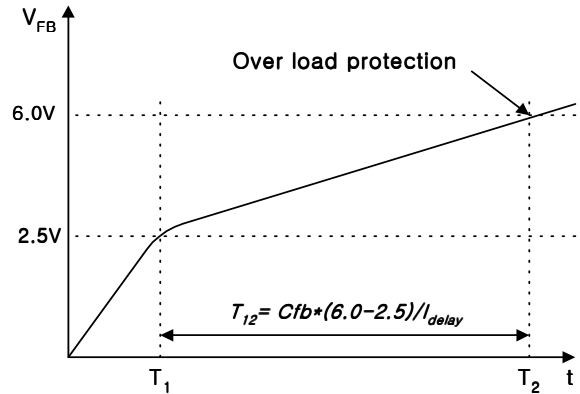

Figure 7. Over load protection
**3.1 Over Load Protection (OLP) :** Overload is defined as the load current exceeding a pre-set level due to an unexpected event. In this situation, the protection circuit should be activated in order to protect the SMPS. However, even when the SMPS is in the normal operation, the over load protection circuit can be activated during the load transition. In order to avoid this undesired operation, the over load protection circuit is designed to be activated after a specified time to determine whether it is a transient situation or an overload situation. Because of the pulse-by-pulse current limit capability, the maximum peak current through the Sense FET is limited, and therefore the maximum input power is restricted with a given input voltage. If the output consumes beyond this maximum power, the output voltage (Vo) decreases below the set voltage. This reduces the current through the opto-coupler LED, which also reduces the opto-coupler transistor current, thus increasing the feedback voltage (Vfb). If Vfb exceeds 2.5V, D1 is blocked and the 3.5uA current source starts to charge CB slowly up to Vcc. In this condition, Vfb continues increasing until it reaches 6V, when the switching operation is terminated as shown in Figure 7. The delay time for shutdown is the time required to charge CB from 2.5V to 6.0V with 3.5uA. In general, a 10 ~ 50 ms delay time is typical for most applications.